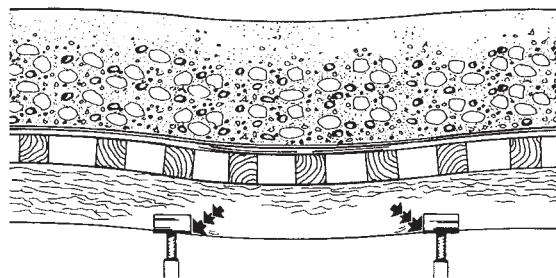

Figure 42-30: Deflection of Stringers Between Supports
- Deflection of stringers between supports (Figure 42-30)